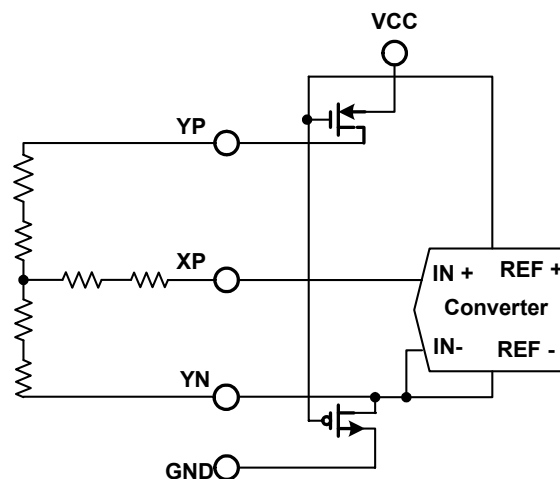

Figure 8. Simplified Diagram of Differential Reference (SER/DFR low, Y switches enabled, X+ is analog input)
This situation can be remedied as shown in Figure 8. By setting the SER/DFR bit low, the +REF and -REF inputs are connected directly to Y+ and Y-, respectively, which makes the analog-to-digital conversion ratiometric. The result of the conversion is always a percentage of the external resistance, regardless of how it changes in relation to the on-resistance of the internal switches. Note that there is an important consideration regarding power dissipation when using the ratiometric mode of operation (see the *Power Dissipation* section for more details). As a final note about the differential reference mode, it must be used with +VCC as the source of the +REF voltage and cannot be used with VREF. It is possible to use a high-precision reference on VREF and single-ended reference mode for measurements which do not need to be ratiometric. In some cases, it is possible to power the converter directly from a precision reference. Most references can provide enough power for the XPT2046, but might not be able to supply enough current for the external load (such as a resistive touch screen).
**SER/DFR**—The SER/DFR bit controls the reference mode, either single-ended (high) or differential (low). The differential mode is also referred to as the ratiometric conversion mode and is preferred for X-Position, Y-Position, and Pressure-Touch measurements for optimum performance. The reference is derived from the voltage at the switch drivers, which is almost the same as the voltage to the touch screen. In this case, a reference voltage is not needed as the reference voltage to the ADC is the voltage across the touch screen. In the single-ended mode, the converter reference voltage is always the difference between the VREF and GND pins (see Table 1 and Table 2, and Figure 5 through Figure 8, for further information).